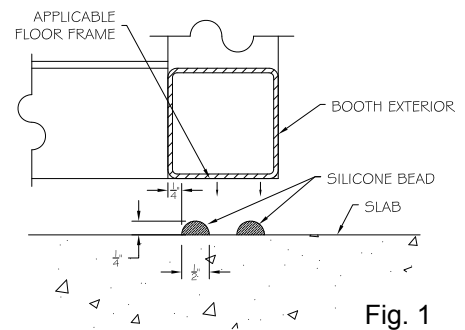

Fig. 1
- Before setting the booth onto the concrete pad, apply two 1/2" beads of sealant at the booth footprint on the concrete as shown in fig. 1.